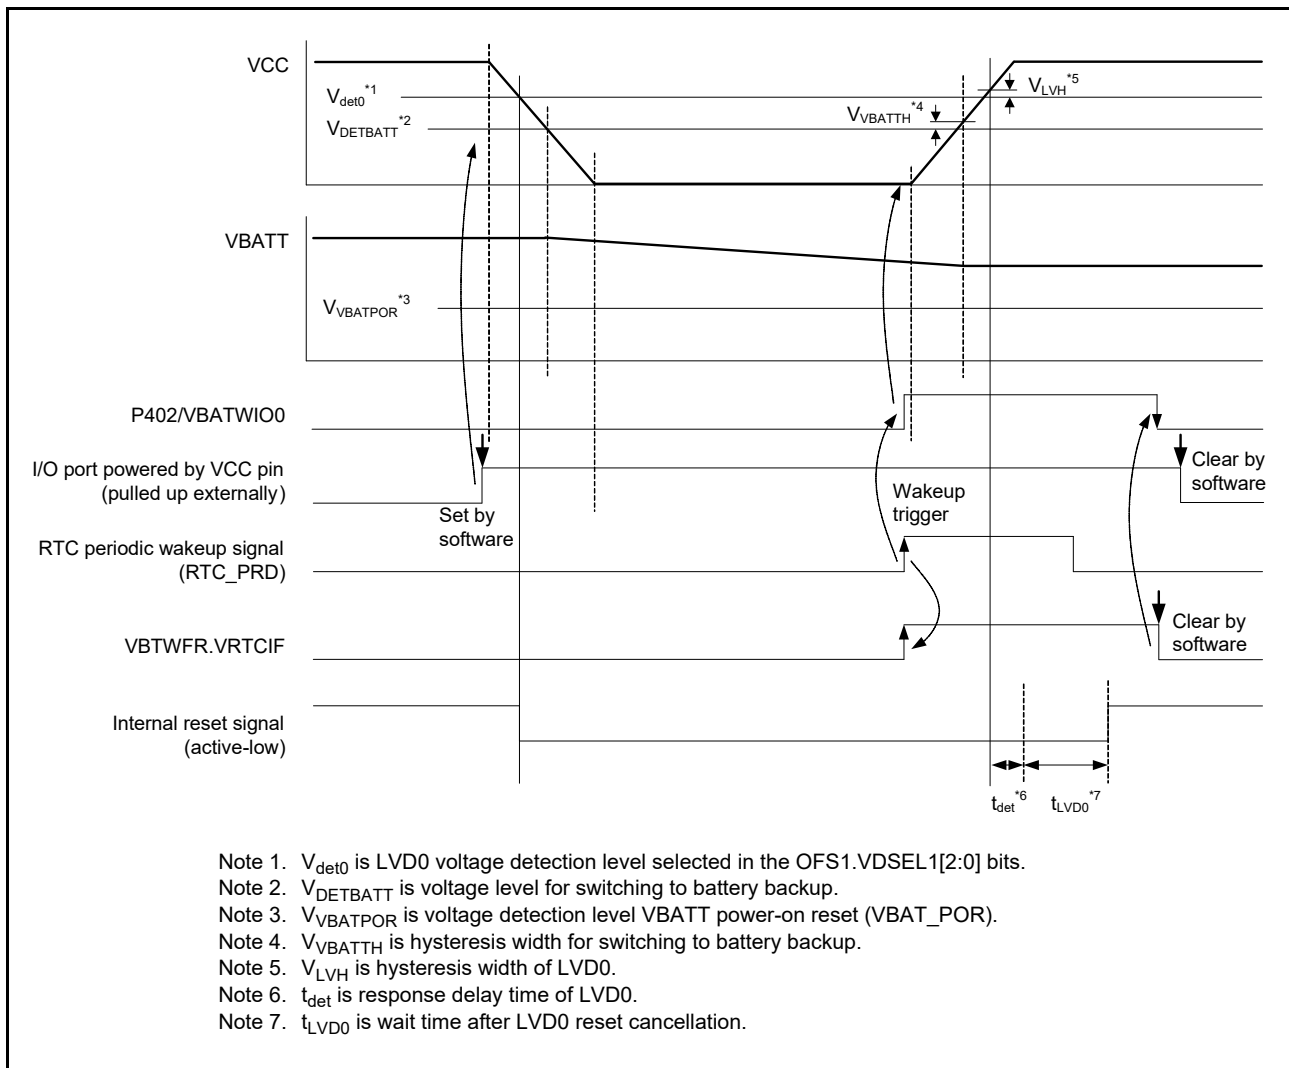

Figure 11.6 VBATT wakeup function timing diagram
The timing diagram of VBATT wakeup function is described in Figure 11.6.
3. Check the VBATT wakeup trigger source by reading the VBTWFR register. In the example of Figure 11.6, the VBTWFR.VRTCIF bit is set to 1.
4. Clear the corresponding bit in the VBTWFR register to 0, then the toggle output is started on the VBATWIOn port (n = 0 to 2). In the example of Figure 11.6, it is toggled from high to low on the VBATWIO0 port.